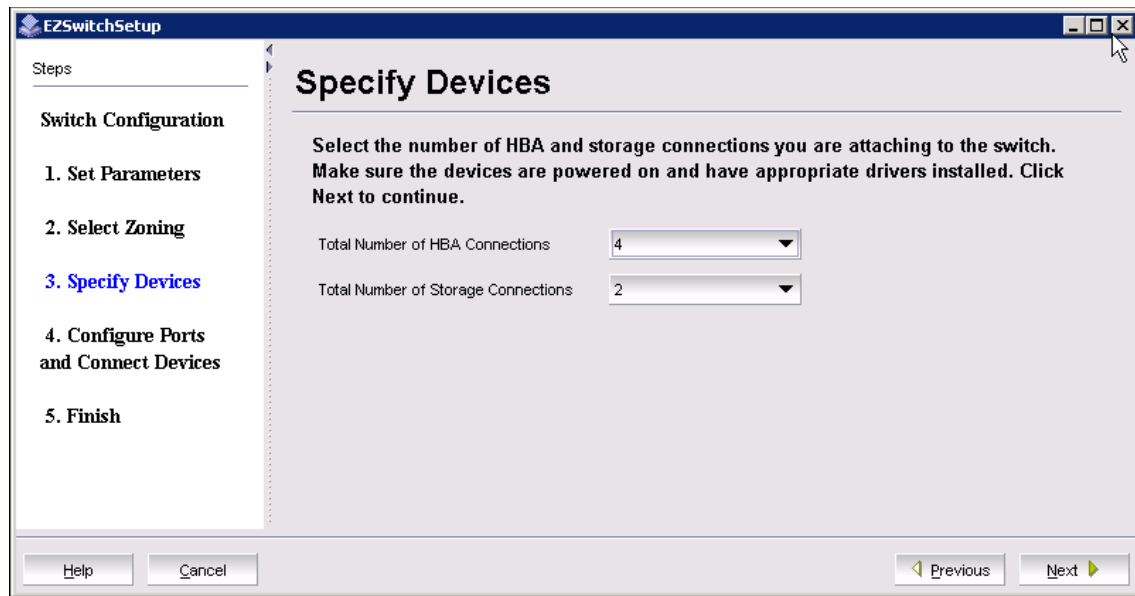

Figure 6-14 EZSwitchSetup - Specify Devices
10. Figure 6-14 shows the next step. In typical zoning scenario, we simply need to specify the number of switch ports for HBA and for storage connections.